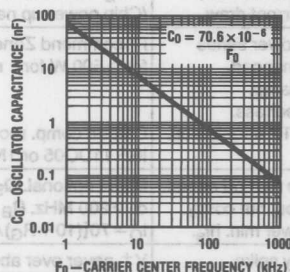

FIGURE 6. Find C_O 's value knowing F_O
ground capacitance should be avoided. A low temperature coefficient (TC) of capacitance (<100 PPM/ $^{\circ}\text{C}$), such as a monolithic NPO ceramic multilayer type, preserves low TC of F_O . Figure 6 finds a C_O value given F_O .